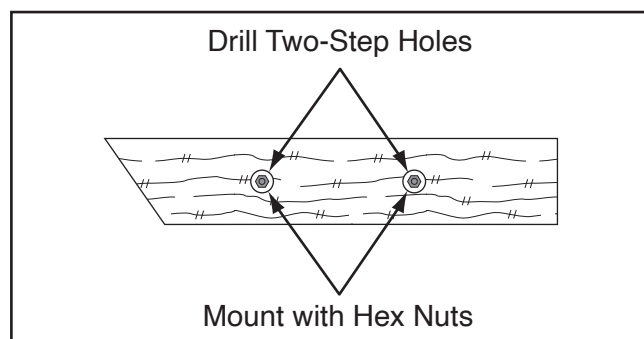

Figure 47. Example of auxiliary fence mounting holes.
8. Use miter fence hex bolt holes to mark (2) mounting holes on board.
9. Drill countersunk mounting holes in auxiliary fence so hex nuts can be used with miter fence hex bolts and flat washers to secure auxiliary fence to miter stop (see **Figure 47**).